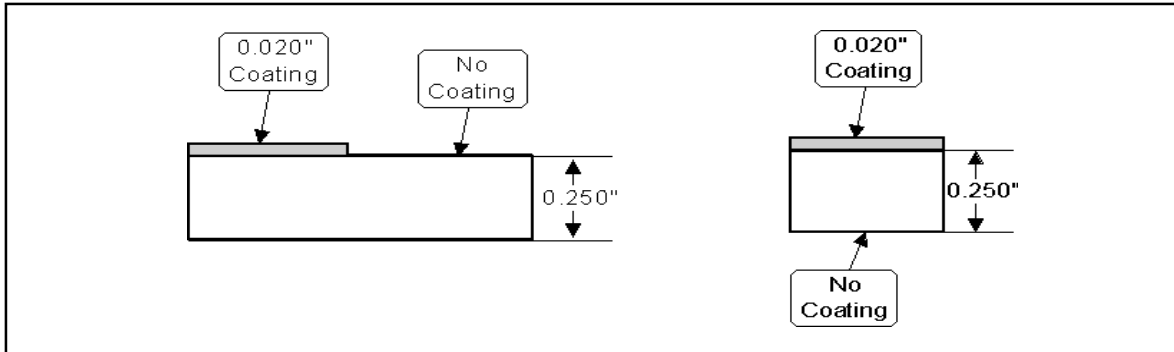

FIGURE 8-4—These are typical examples of coated calibration standards. Note that the base-metal thickness must be the same throughout the length of the block.
Step 1: Obtain a calibration standard of known thickness with coating on only one side. Be sure that your coated standard is coated with the same type of coating as your test piece. (See Figure 8-4 for a typical coated calibration standard design.)